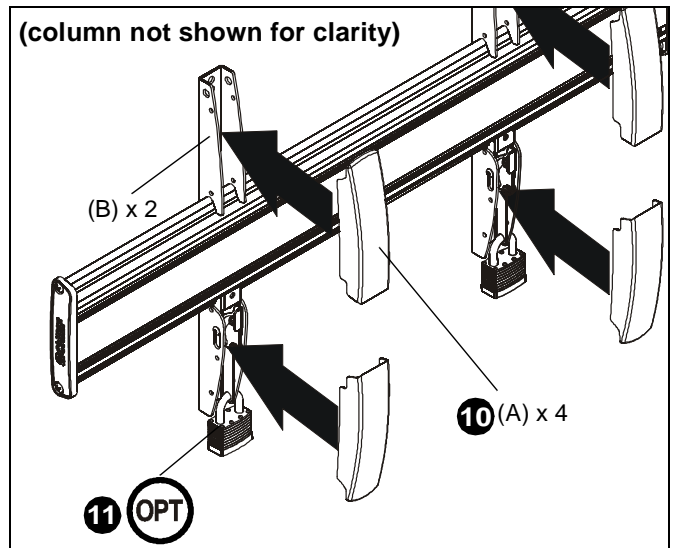

Figure 11
10. Snap four upright covers (A) onto uprights. (See Figure 11)
**NOTE:** Tabs on inside of covers (A) will snap directly into holes on uprights to ensure a secure connection.
11. (Optional) Use padlocks (not provided) to secure uprights to head assembly. (See Figure 11)